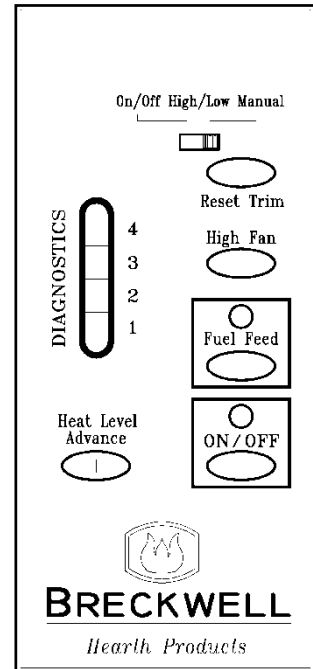

FIGURE 12
PANEL CONTROLS (See Figure 12)
- The green light located above the On/Off button (in the On/Off box) will flash during the ignition start-up period. (See figure 12)
- While the stove's auger system is feeding pellets the amber light (in the "Fuel Feed" box) will be on. (See figure 12)